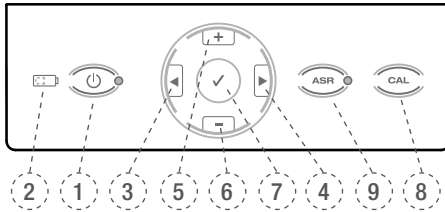

Fig. 4 Keypad
- or the micromotor may also be operated by holding down the **CONFIRM** key ✓ (7), Fig. 4 for 1.5 seconds. The micromotor can be stopped again by pressing any key or the foot pedal. To conserve battery power, when operated with the **CONFIRM** key ✓, the micromotor will stop automatically after 5 minutes of non-use.
Press the **POWER** key to switch off the device. The battery LED (2), Fig. 4 will not light up unless the battery is charging.
Calibrating **CAL** (8), Fig. 4 the micromotor automatically adjusts the torque measurement to ensure torque accuracy each time the micromotor has been changed, the contra-angle is replaced, autoclaved and/or lubricated.
- Hold down the **CAL** (8) key.